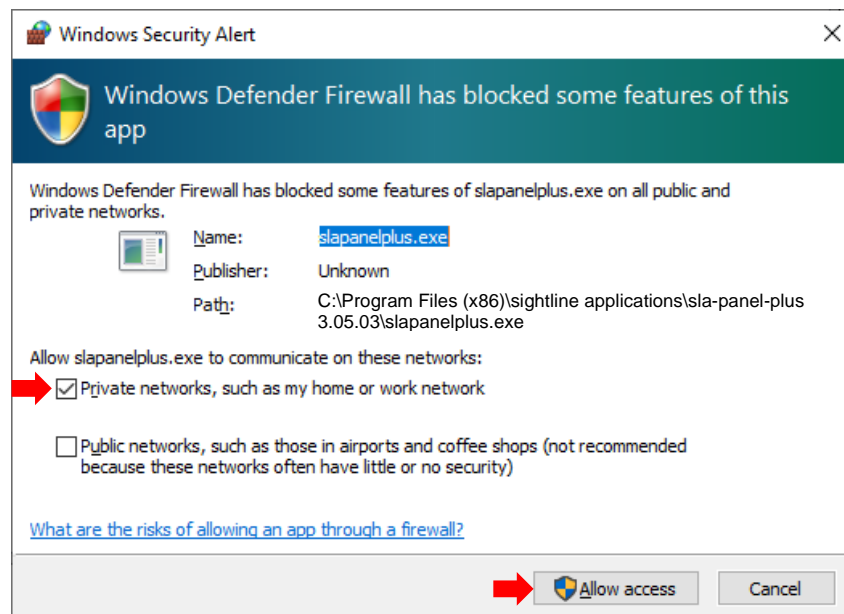

Figure 7: Windows Security Alert Prompt
3. The first time that Panel Plus is launched, a Windows Security Alert prompt should appear. Select *Allow Access* to create a firewall exception (Figure 7).